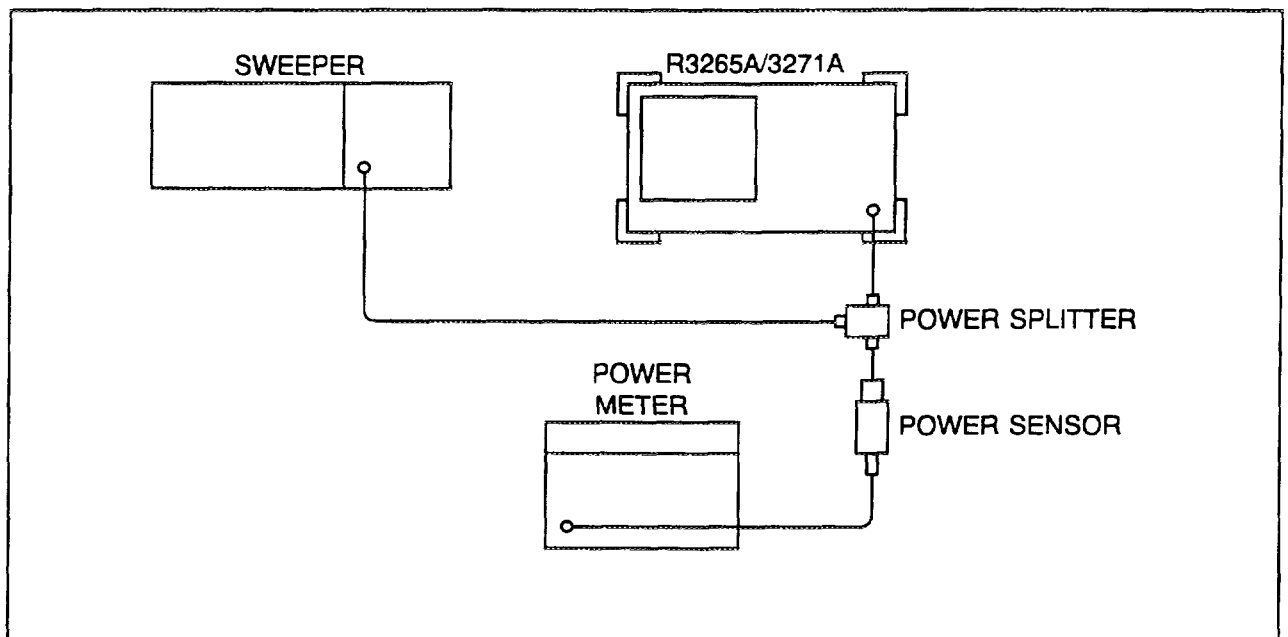

Figure 4-13 Image, Multiple and Out-of-Band Response Test Setup
(1) Connect the equipment as shown in Figure 4-13, but do not connect the power sensor.
(2) Press the **INSTR PRESET** key on the sweeper and set the controls as follows: